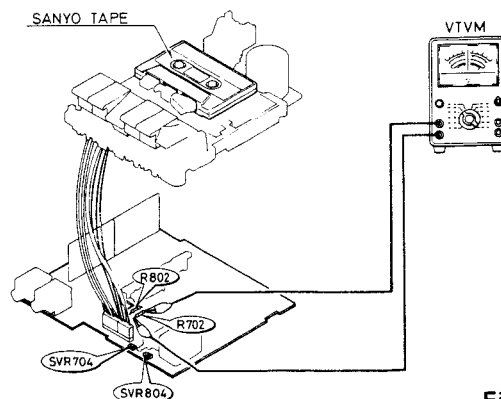

Fig. 20
- Obtain the voltages listed below for the corresponding marks, adjusting SVR704 and SVR804. (Fig. 20)